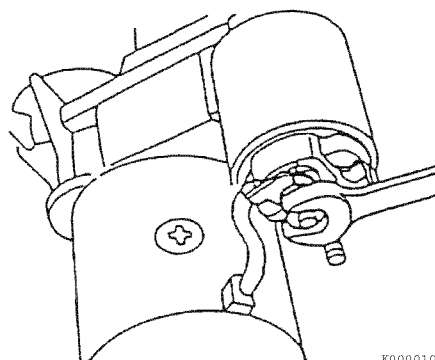

Figure 11-32
- Reinstall the two M4 through bolts (**Figure 11-32**). Securely tighten the through bolts. Reconnect the wire to the magnetic switch assembly. Tighten the M8 nut. Reinstall the cover over the connection.